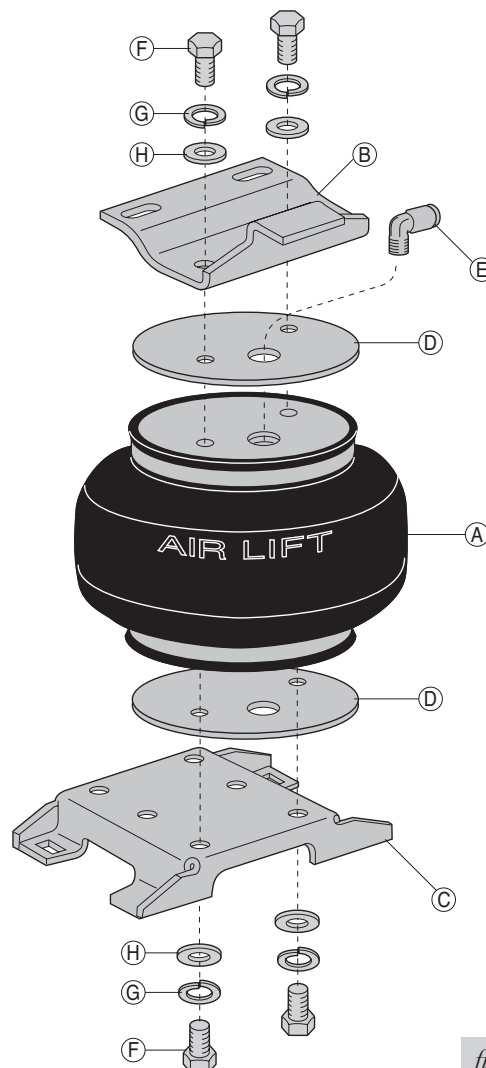

fig. 2
1. Place backer plate (D) on the top of the air spring (A).
2. Install 90° elbow fitting (E) to the top of the air spring. Tighten finger tight plus 1 and 1/2 turns. Be careful to only tighten on the metal hex nut. Do not over tighten.
3. Set the upper bracket (B) onto the air spring (A). Make sure that the air fitting port is on the same side as the tab. Attach the bellow-bracket assembly using 3/8 " bolt (F), 3/8 " lock washer (G), and 3/8 " flat washer (H). Tighten to 20 ft-lbs (Figure 2).
4. Set a backer plate (D) onto the bottom of the air spring assembly.
5. Place the lower bracket onto the air spring assembly in an offset position (Figure 2).
- Use a 3/8 " bolt (F), a 3/8 " lock washer (G), and a 3/8 " flat washer (H) through the holes marked with an *iAi* to attach the lower bracket and backer plate to the assembly. Again, be sure that the bellow is offset to the fitting side. Tighten hardware to 20 ft-lbs (Figure 2).